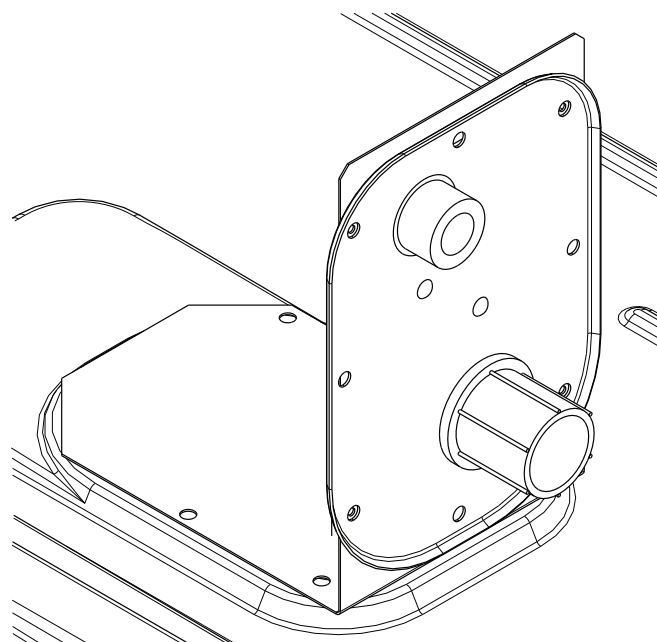
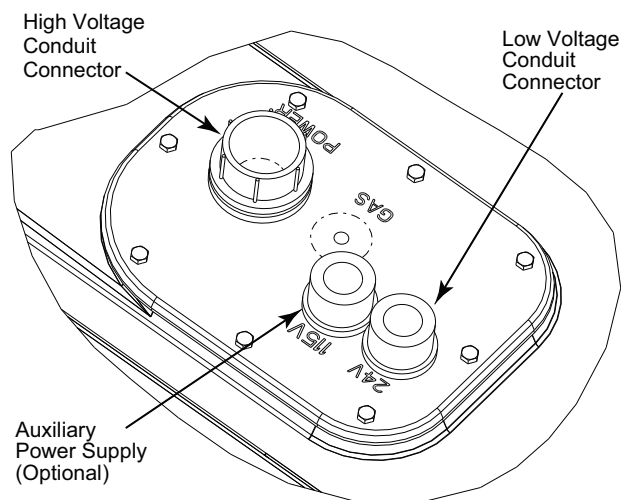

Fig. 29 — Thru-the-Base Fitting Assembly (Shown in Shipping Position)
Fig. 30 — Thru-Base Connection Fittings
an “L” bracket covering the embossed (raised) section of the unit basepan in the condenser section (see Fig. 29 for shipping position). The 3/4 in. bulkhead connector enables the low-voltage control wires to pass through the basepan. The 1/2 in. bulkhead connector allows the high-voltage power wires to pass through the basepan. See Fig. 30.
3. Place the gasket over the embossed area in the basepan, aligning the holes in the gasket to the holes in the basepan. See Fig. 30.